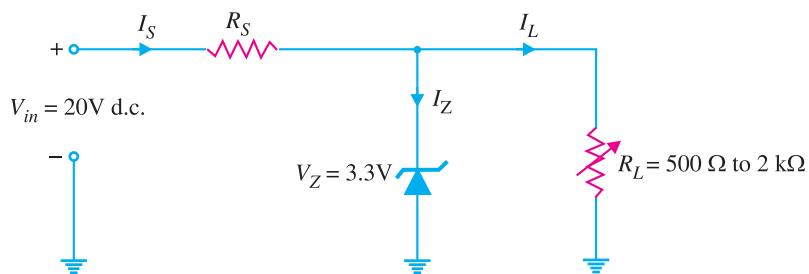

Fig. 17.12
**Example 17.10.** Determine the minimum acceptable value of  $R_S$  for the zener voltage regulator circuit shown in Fig. 17.12. The zener specifications are:
**Example 17.11.** Determine the maximum allowable value of  $R_S$  for the zener voltage regulator circuit shown in Fig. 17.12.